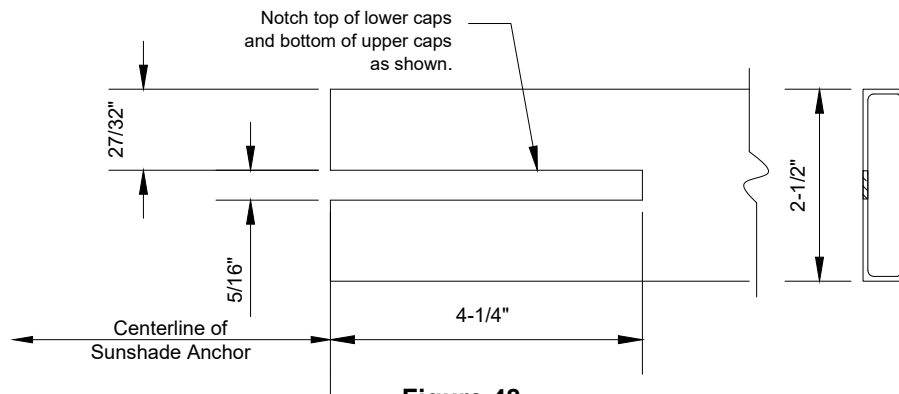

Figure 48
- 2) Face caps must be notched to clear the sunshade anchor. Face caps are cut at centerline of sunshade with a notch on each end. Notch per FIGURE 48.